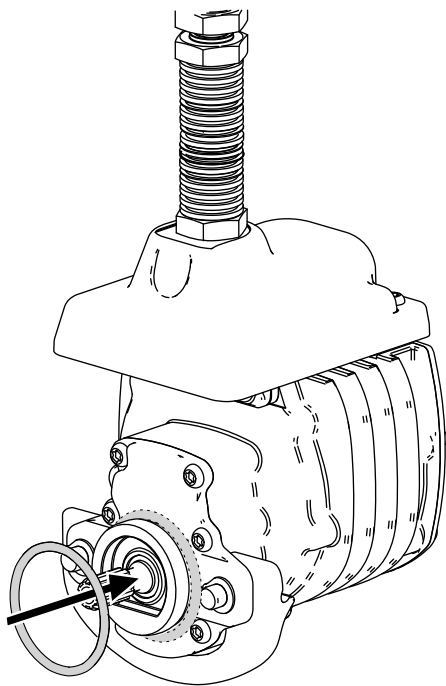

Figure 3
3. Install an O-ring to each reel motor as shown in Figure 3.